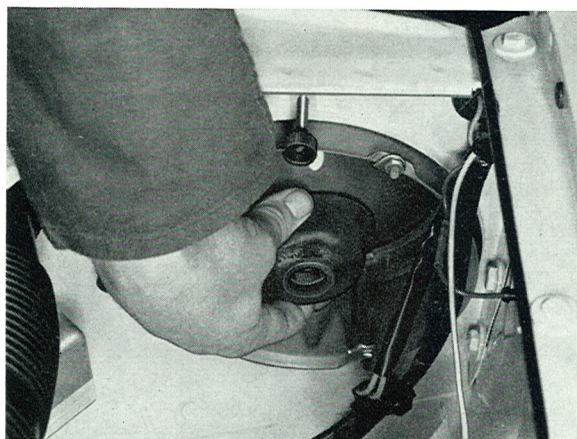
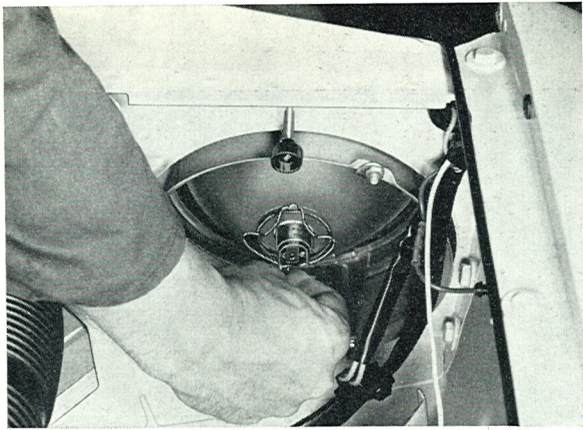

Fig. 3-63. Removing the rubber cover
Fig. 3-64. Removing the lock spring
1. Disconnect the leads by drawing the connecting contact back. Pry off the rubber protection, see Fig. 3-63. Clamp together and remove the spring retaining the bulb to the insert, Fig. 3-64.